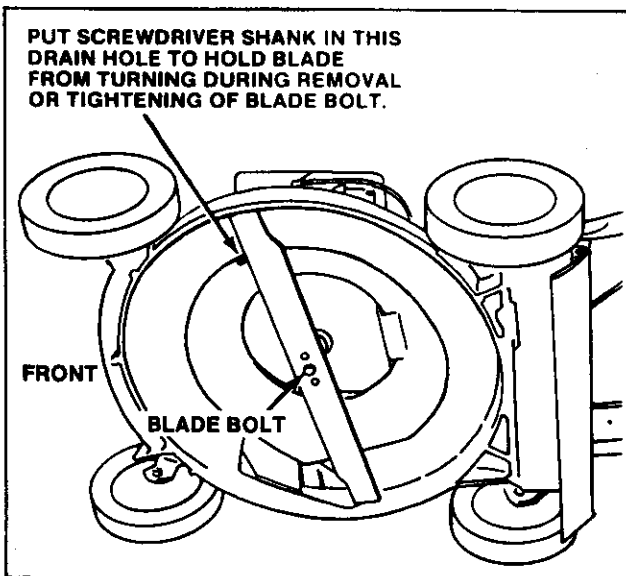

FIGURE 13
CHANGING BLADE (See Figure 13)
2. Put the shank of a screwdriver in the deck drain hole (see Figure 13) to block the blade from turning.